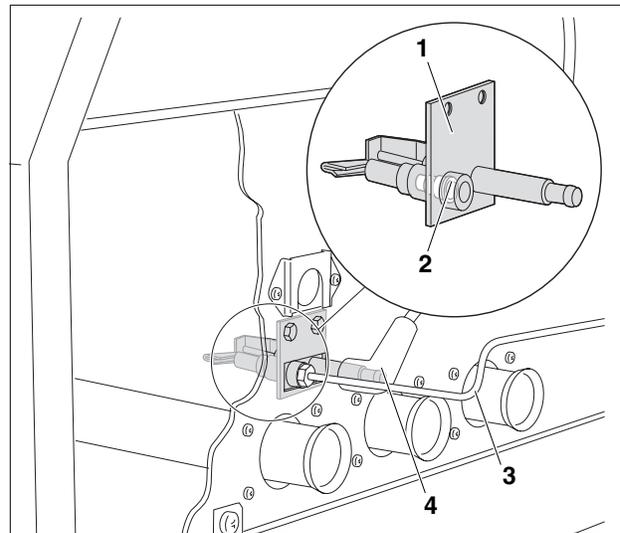

Fig. 38 Pilot burner assembly
2. Remove ignition cable (Fig. 38, **Item. 4**) from pilot burner assembly (Fig. 38, **Item. 1**).
3. Loosen the pilot gas line (Fig. 38, **Item. 3**) on the pilot burner (Fig. 38, **Item. 1**).
4. Remove pilot gas orifice (Fig. 38, **Item. 2**) and blow out to clean.